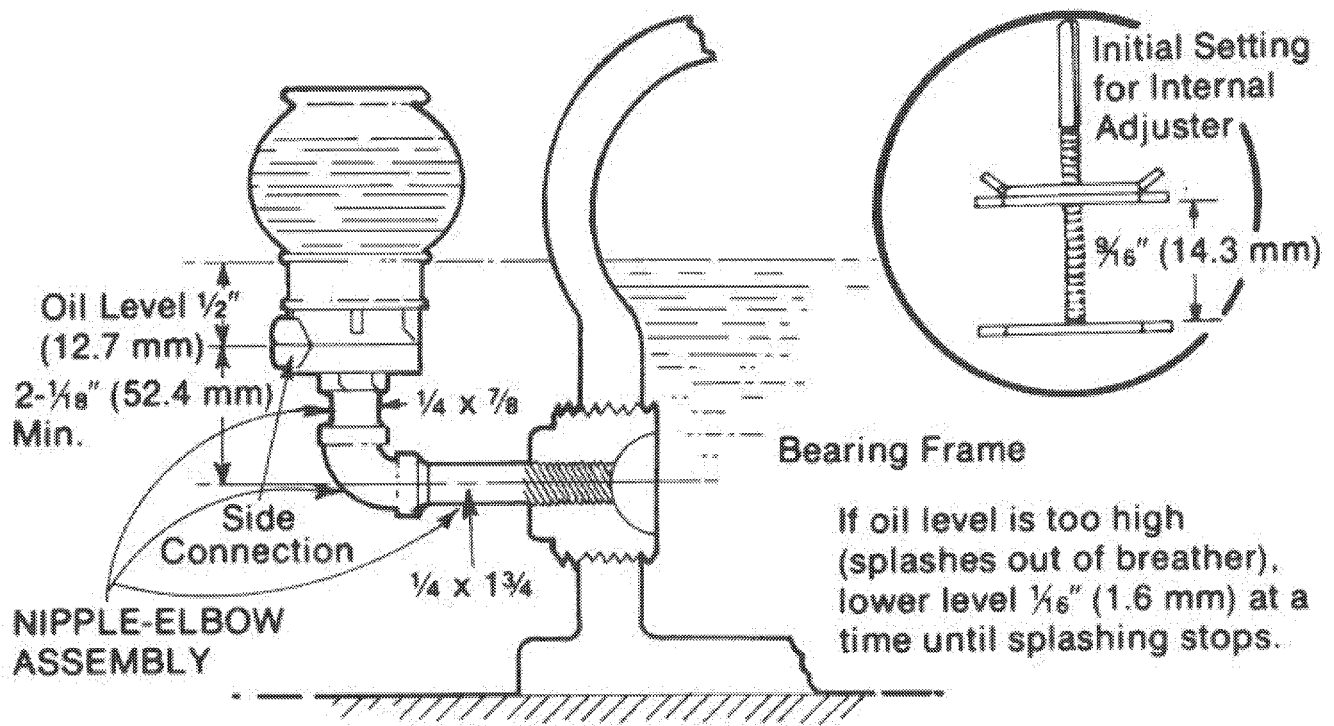

FIGURE 1
1. Before installing the oiler on the bearing frame, check the oiler adjustment. The setting dimension  $\frac{3}{16}$ " (14.3 mm) is illustrated in Figure 1.
4. Install the nipple-elbow assembly so the long nipple (¼ NPT x 1.75 (44 mm) long) extends horizontally from the frame to the 90 degree elbow and the short nipple vertically from the elbow to the BOTTOM connection of the oiler. Refer to Figure 1.
6. After starting pump, remove the breather. Oil viewed through the breather hole should be a mist. If oil is thrown out of the breather hole, or an oil mist is not visible, recheck all dimensions shown on Figure 1.